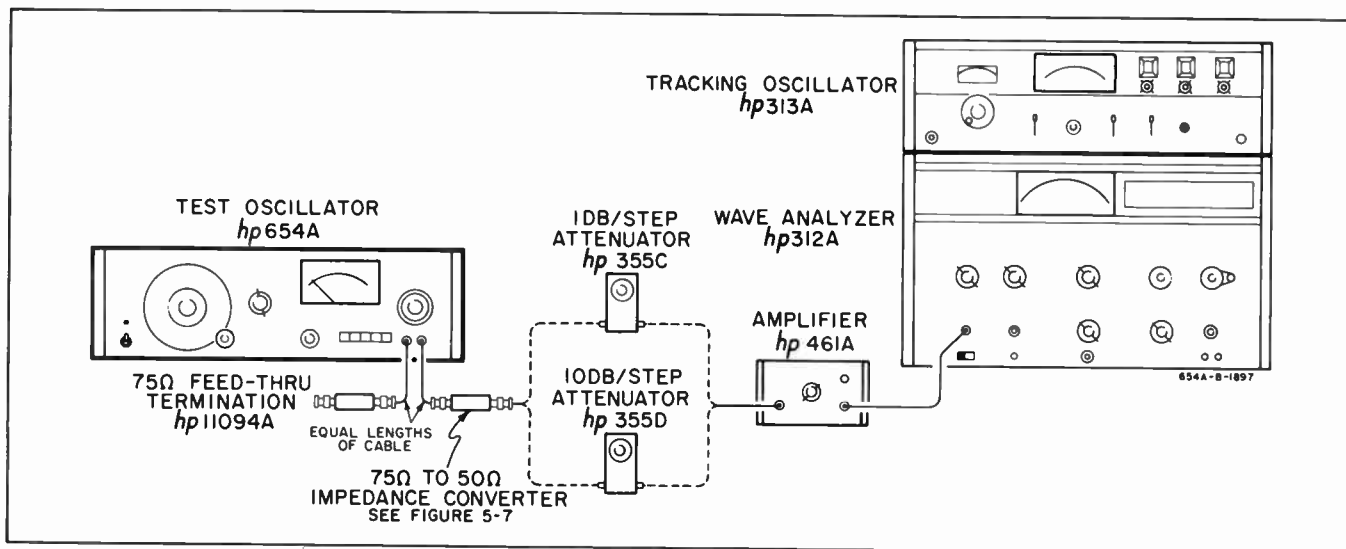
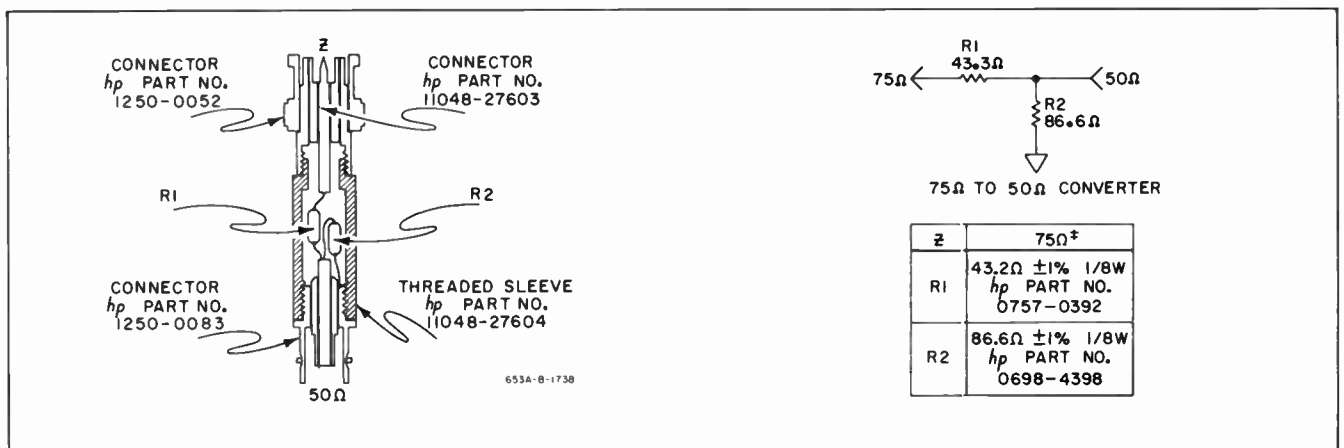

Figure 5-6. Attenuator Accuracy Checks
Figure 5-7. Impedance Converter
5-24. The test setup (shown in Figure 5-6) for these checks is critical. Ground loops, noise, interference from other instruments, etc., can give measurement errors of up to greater than 1dB. Placement of the test instruments relative to each other may affect measurement accuracy; it is not possible to give an exact position for each instrument as this may also vary with the location of the test setup. To reduce ground loops between instruments a large coil can be placed in series with the interconnecting cables between two of the instruments. The coil can be easily constructed as follows:
- a. Connect the equipment shown in Figure 5-6. (Figure 5-7 shows the parts required to build the 75 ohm to 50 ohm impedance converter). Use the 10dB/step external attenuator (with known accuracy at 300kHz and 10MHz), do not connect the 1dB/step attenuator at this time.
- i. Check the other side of the 654A 10dB attenuator at 300kHz and 10MHz by interchanging the two cables connected to the 654A output connectors (i.e. as viewed in Figure 5-6, the cable terminated in 75 ohms is moved with the termination to the right-hand connector and the cable connected to the 75 ohm to 50 ohm impedance converter is moved with the converter to the left-hand connector); then repeat steps c through h of this paragraph.
- a. Connect the equipment shown in Figure 5-6 except use the 1dB/step external attenuator and do not use an external amplifier.